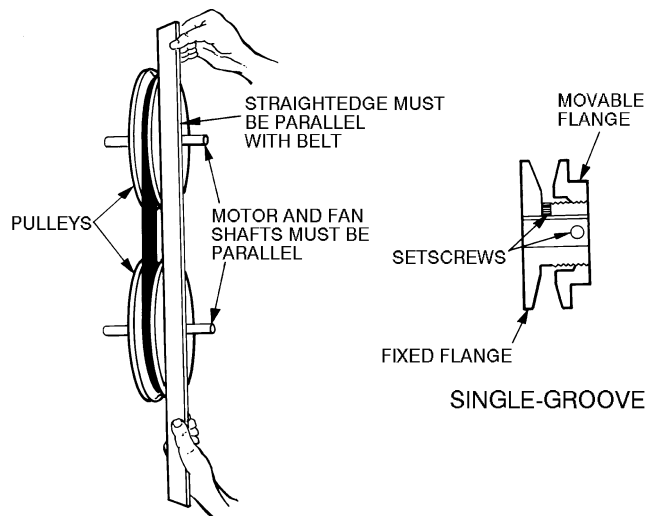

Fig. 38 — Indoor-Fan Pulley Adjustment
- Loosen movable pulley flange setscrew (see Fig. 38).